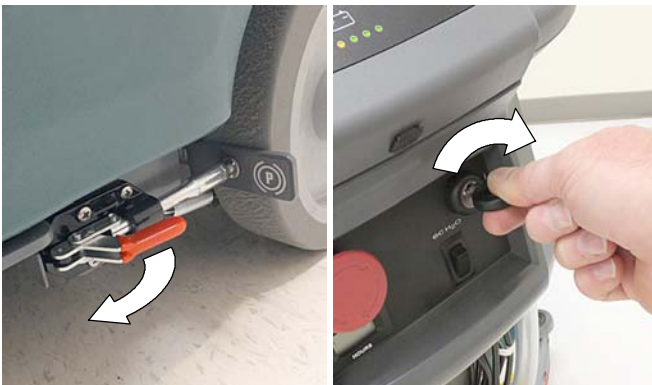

FIG. 34
1. Release the parking brake lever, if equipped (Figure 34)
2. Turn the key to the on (I) position (Figure 34).